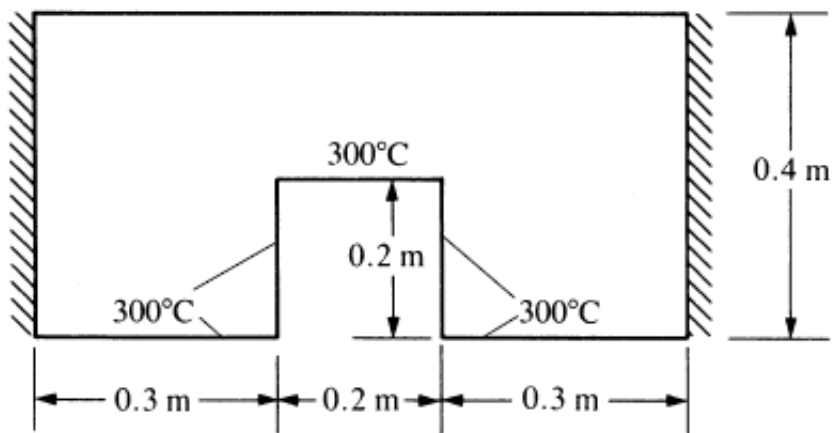

Figure P7.16
16. For the two-dimensional body shown in **Figure P7.16**, determine the temperature distribution. The left and right sides are insulated. The top surface is subjected to heat transfer by convection. The bottom and internal portion surfaces are maintained at 300 °C.